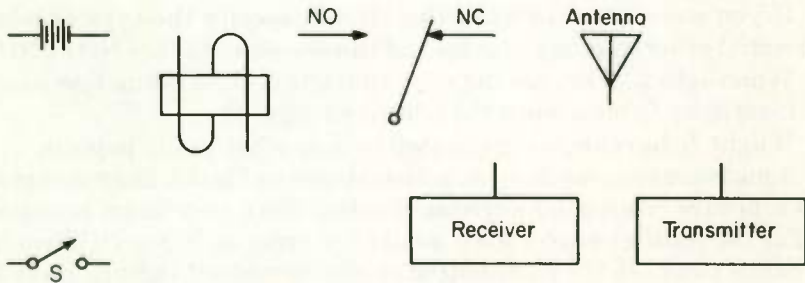

Fig. 17
3. (a) Complete the circuit in Fig. 17 so that the relay will connect the antenna to the receiver when switch S is open and to the transmitter when switch S is closed. This circuit is much used at two-way stations, because it makes it possible to use the same antenna for both receiving and transmitting. The switch S is frequently mounted on the microphone, being pressed closed when the microphone is picked up. (b) What type of relay would you order if you wanted to build this circuit?